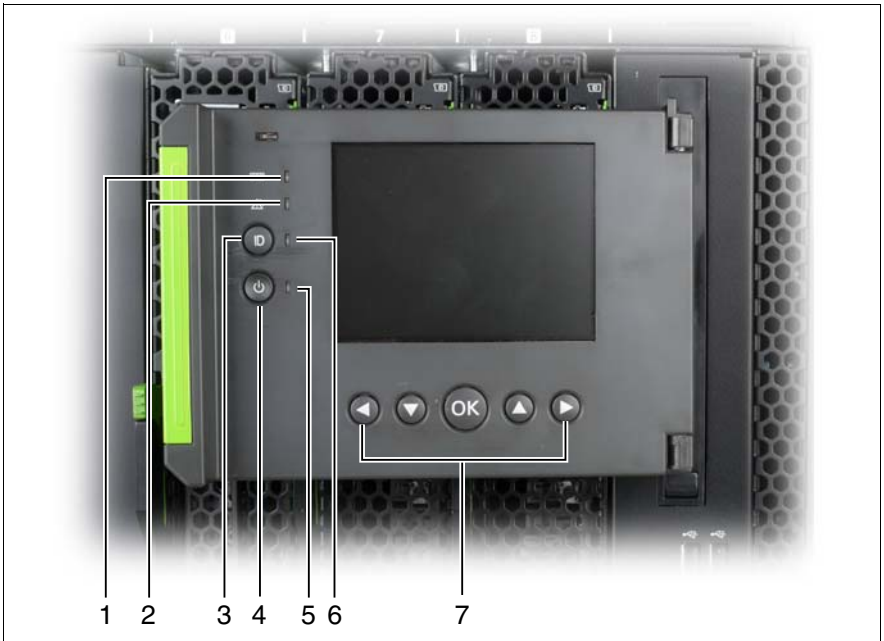

Figure 14: Control and display elements on the front of the ServerView Local Service Display for Blade
- ▶ Press the On/Off button on the system unit (position 4 in figure 14 on page 57) for 2 seconds. Depending on the BIOS setting, the individual server blades will also be switched on. This is done in sequence according to the numbering of the server blade slots (see figure 20 on page 82.)
- ▶ To **properly shut down** all server blades, press the On/Off button on the front of the system unit (position 4 in figure 14 on page 57) for 4 seconds. All server blades will then be shut down.
- To **immediately shut down** all server blades, press the On/Off button on the front of the system unit (position 4 in figure 14 on page 57) for 10 seconds. All server blades are switched off immediately.
- Press the On/Off button on the ServerView Local Service Display for Blade (position 4 in figure 14 on page 57) to switch on the system unit.